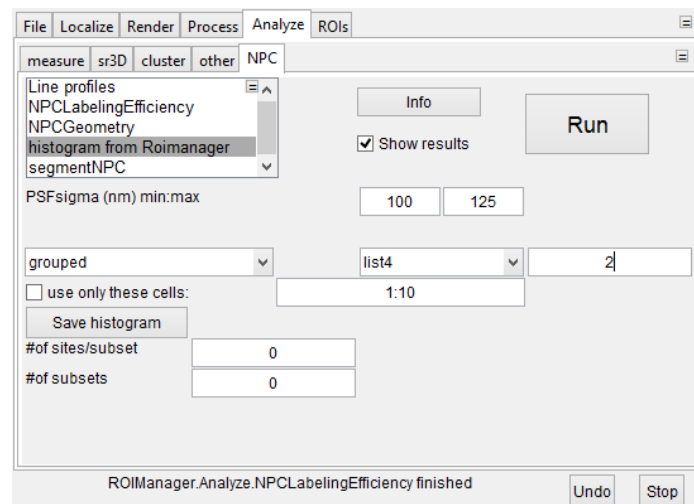

Figure 1 Used parameters in the *histogram from Roimanager* plugin when analyzing mMaple-based counting studies.
3. Select *histogram from Roimanager*. For mMaple-based counting studies parameters shown in Figure 1 were used.
This function was used to quantify the diameter of rings in the Ex-SIM experiment (Figure 1, Supplementary Figure 2) to calculate the local expansion factor.